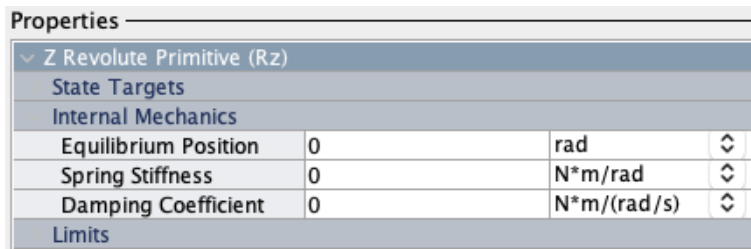

Figure 22: Internal Mechanics Properties
15. Now we will apply spring stiffness to the joints. The “Spring Stiffness” property is found within the “Revolute Joint” block under the “Internal Mechanics” tab. As shown in figure 22. Open each of the revolute joint blocks and apply the following spring stiffness values to the joints.